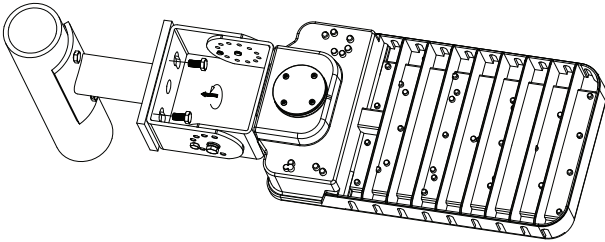

FIG. 14
1. Tighten the fixture to the tenon pole or tenon adapter by two M12 bolts (see **FIG. 14**).